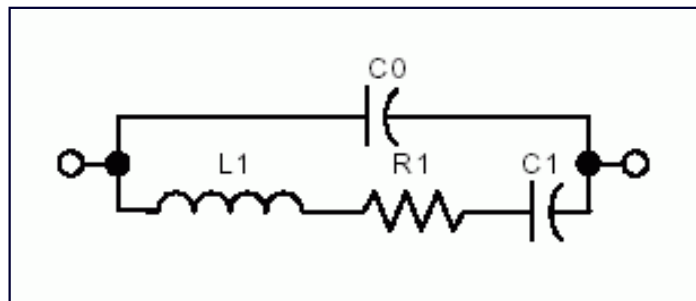

Figure 3. Crystal Equivalent Circuit
Crystals have several fundamental characteristics that are important to the design of an oscillator circuit. Figure 3 shows the equivalent circuit for a crystal. Near the resonant frequency the circuit consists of a series circuit including motional inductance L_1 , motional resistance R_1 , and motional capacitance C_1 . The parallel component C_0 is the shunt capacitance of the crystal.
4. Temperature. The further the operating temperature is from the crystal turnover temperature, the slower the crystal oscillates. See Figures 3 and 4.